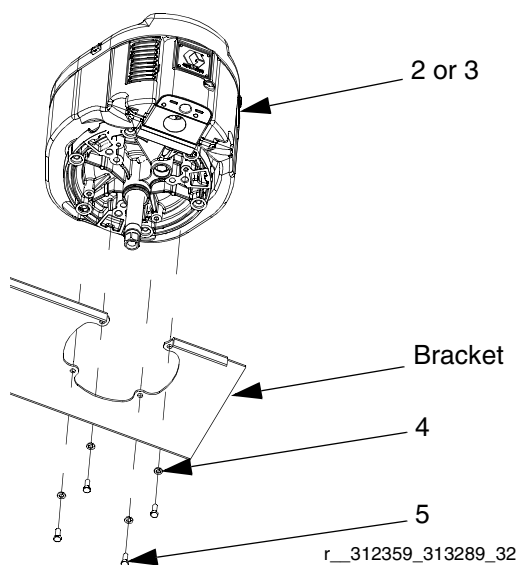

FIG. 7
- b. Remove mounting screws (5) and washers (4) holding air motor (2 or 3) to mounting bracket. See FIG. 7 on page 22.